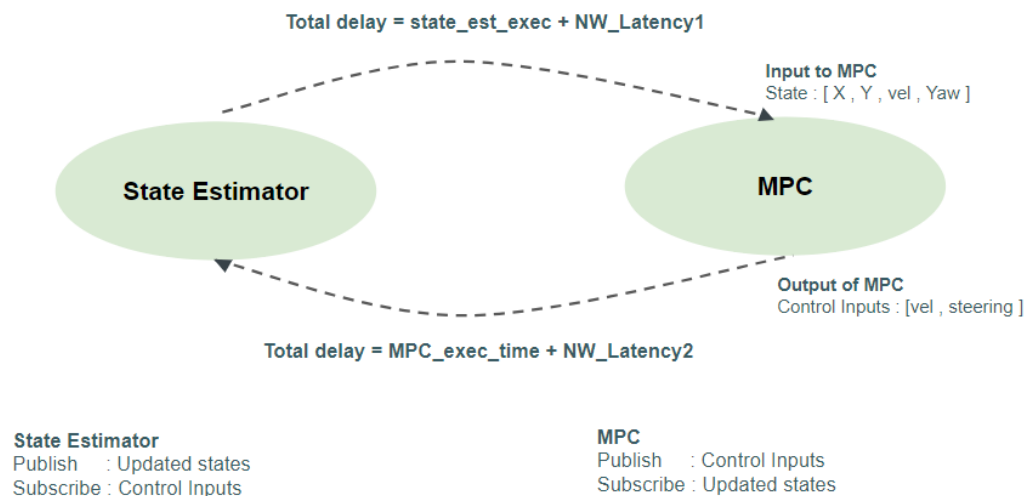

Figure 1.1.1: ROS architecture
**ROS Architecture:** Transferred entire python implementation into a ROS architecture where there is a state estimator node and a MPC node that publishes and subscribes information. Refer figure 1.1.1 for ROS architecture. The MPC node publishes control commands containing steering and acceleration values that are subscribed by state estimator node. The state estimator just has an ODE running on the Ackermann model of the vehicle which takes in these U inputs (steering, acceleration) and generates state estimates of the vehicle. The state estimator node then publishes these updated states which is used by the MPC. This process runs till the vehicle reaches its goal state.